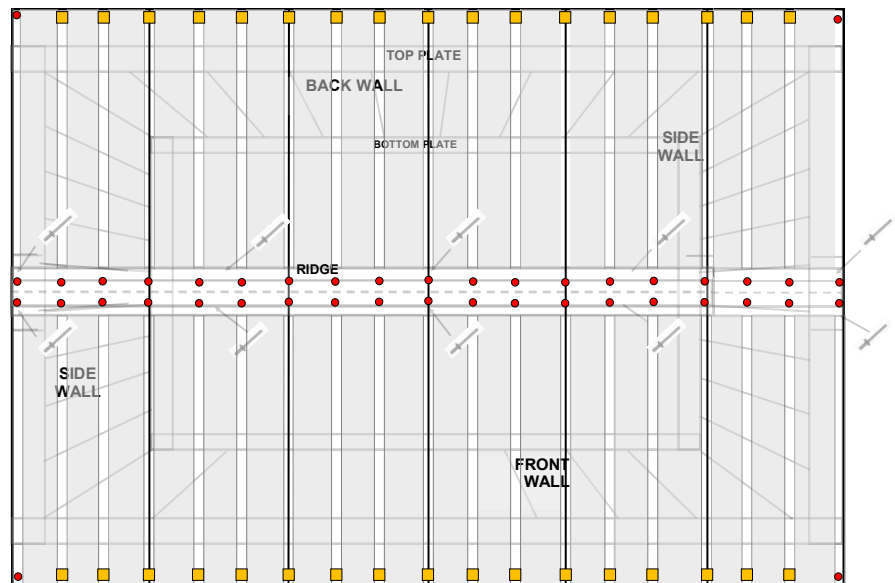

fig.2
Use the 50mm Clouts only on ribs covered by flashings, shown on pg 13 fig.2. Pre-drill holes using a 3.5mm drill bit. Use Roofing Screws on all other ribs. Ensure screws are not overtightened as this can damage the seals and cause the shed to leak.
- Secure with 2 x 75mm screws through the top of the Jack Studs into the Timber Top Plate (fig. 2).
- Rivet the 2 Ridge Caps together using 4 rivets, so total flashing is 3.050m long. Rivet the Ridge Flashing to the centre of the roof using 10 x rivets as shown (fig.2).